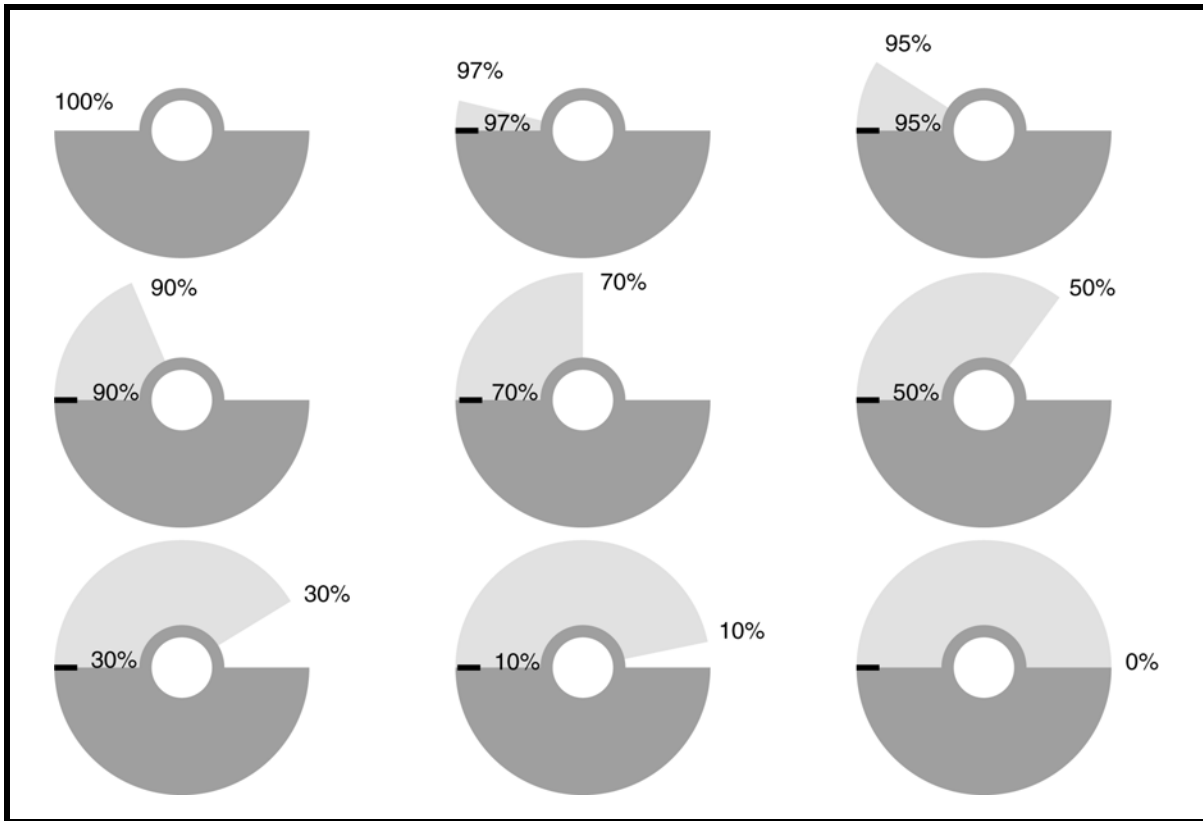

Figure 8. Eccentric Weight Adjustment
4. Rotate outer eccentric weights on shaft and line up the outer eccentric with the desired percentage setting on the inside eccentric. (See Figure 8 for examples of force settings.)